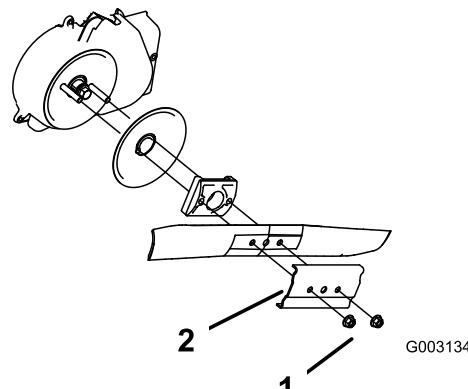

Figure 27
- Remove the 2 blade nuts and the stiffener (Figure 27).
- Remove the blade (Figure 27).
- Install the new blade (Figure 27).